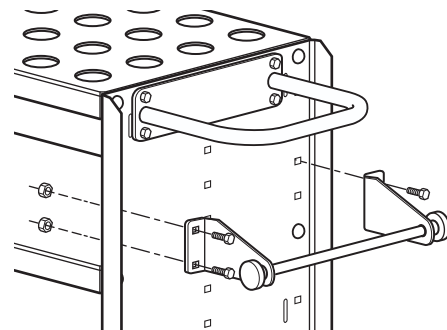

Figure 4-24
4. Using four M8 x 20 Round-Head Square-Neck Carriage Bolts (item #3) with M8 Flanged Nylock Hex Nuts (item #2), and attach the Rod assembly to the Side Panel, just below the Handle, as shown in Figure 4-24. **Only fully tighten these four bolts and nuts at this time.**